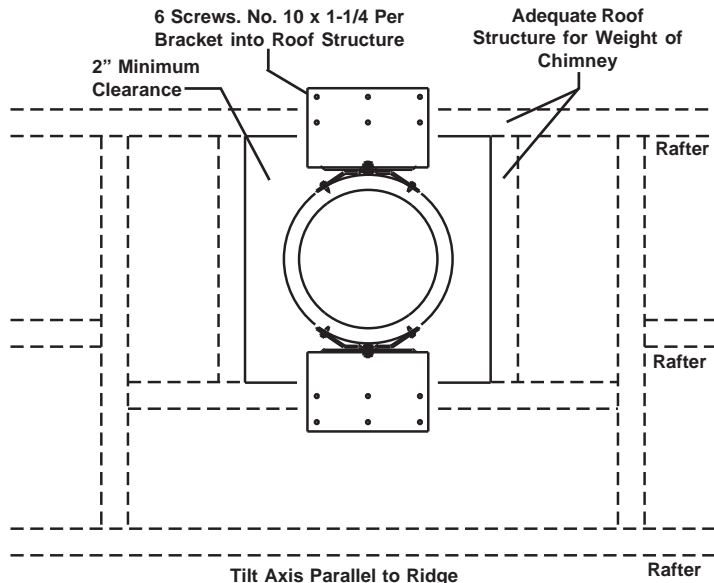

FIG. 1
1. Cut an opening in the roof and frame all around the opening to distribute weight load (Fig. 1). Be sure to allow for a 2" minimum clearance (Figs. 1 AND 2).
3. Install six screws per roof plate with the innermost screws going into rafters or headers (Fig. 1).